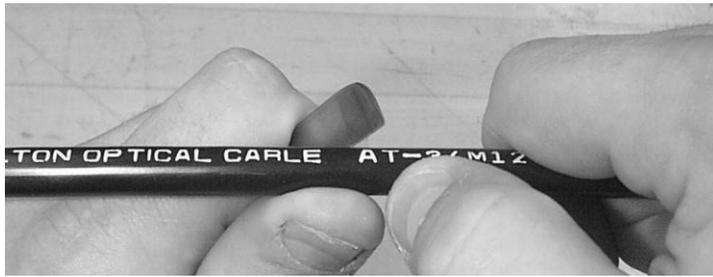

Figure 2 – Ring cut the cable jacket.
4.2 Use a cable sheath knife to ring cut the cable at the measured mark. Lightly score the polyethylene jacket (Figure 2).